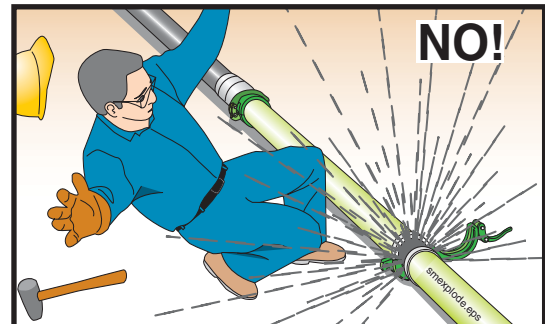

Figure 16
- Pump in **reverse** for **at least two strokes**, then stop the pump. **Do not allow anyone to open the pipeline** until this is done (Figure 16).